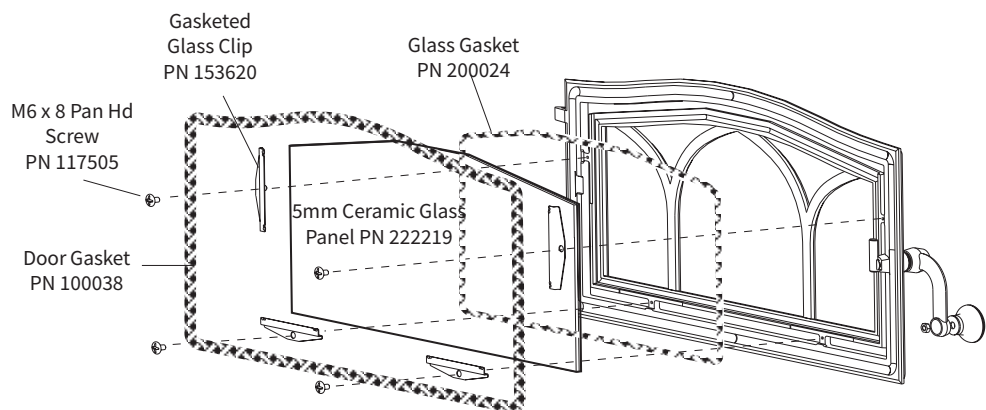

Figure 5.1.
2. First loosen and then carefully remove all of the glass clips from the inside of the door. See fig. 5.1.
See the chart below for replacement gasket specifications. See also fig. 5.1 for door and glass gasket locations.